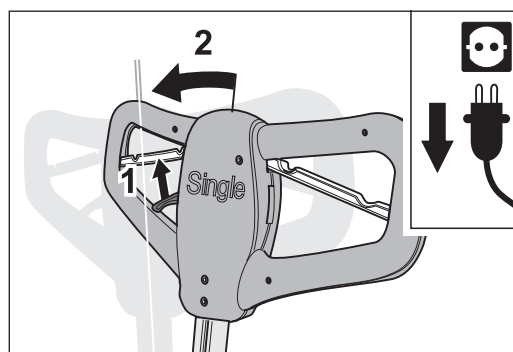

Fig. 3 Pull the adjusting lever to release the lock and raise the guide tube until it reaches the mechanical stop.
- 4 Pull the adjusting lever on the handle towards you to release the lock of the guide tube, and push the guide tube into and past the vertical position until it reaches the mechanical stop (Fig. 3).
- 8 The height of the guide tube can be adjusted, allowing you to work with the SINGLE as comfortably as possible. To make this adjustment, pull the adjusting lever towards you (Fig. 3). This releases the lock on the guide tube so that it can be moved up or down. Choose the position that feels most comfortable to you (Fig. 7) and release the adjusting lever again.